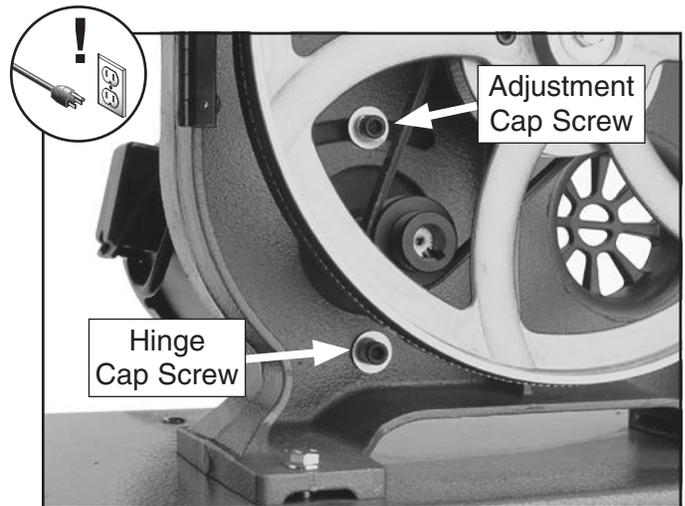

Figure 42. Locations of the motor adjustment and hinge cap screws.
2. Open the lower wheel cover and loosen the motor mount adjustment and hinge cap screws shown in **Figure 42**.